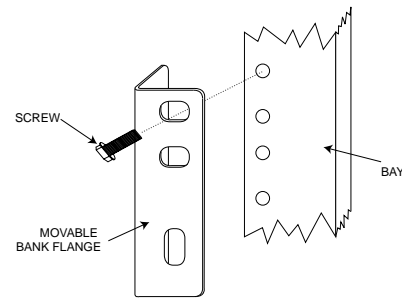

Figure 2. BR1/10 19" Single Chassis Mounting
3. Align the flange mounting holes on each side of the chassis with the bay mounting holes, and secure with proper screws and/or washers (see Figure 2).